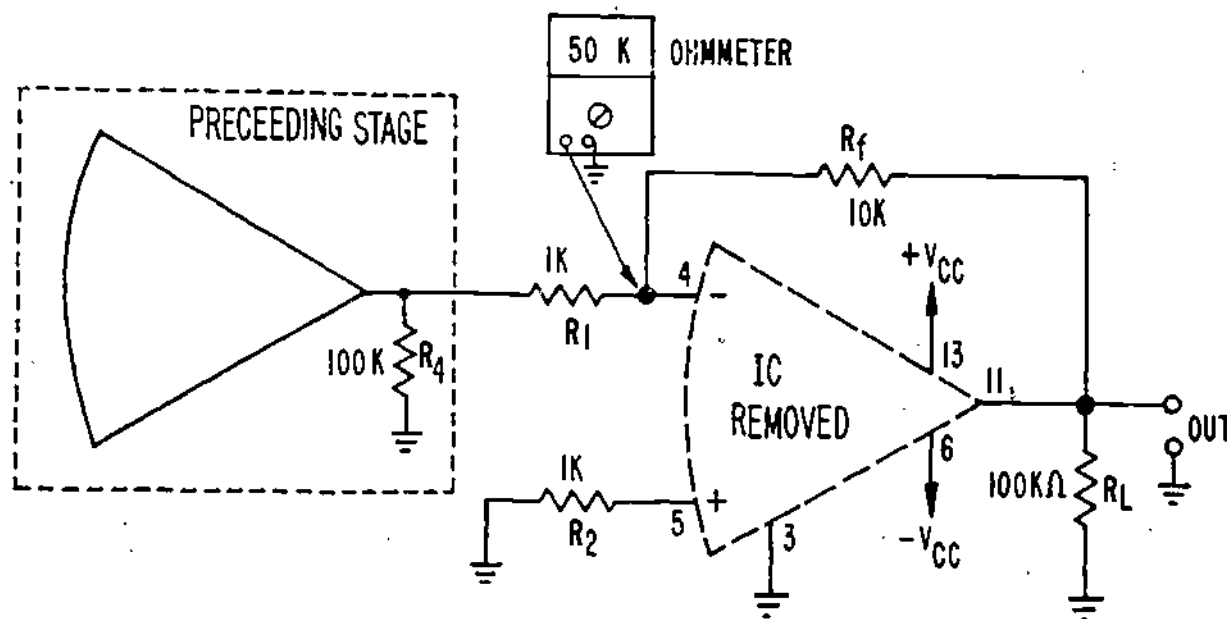

Figure 17
17. When the supply voltages to a faulty IC stage are normal, the failure is either in stage components external to the IC, or the IC itself. The next step the technician should take is to use the ohmmeter and make resistance checks. However, circuit precautions must be observed. Look at Figure 17.
2. Parallel resistance paths are usually found which must be taken into consideration. (Note the 50K ohm reading in Figure 17).